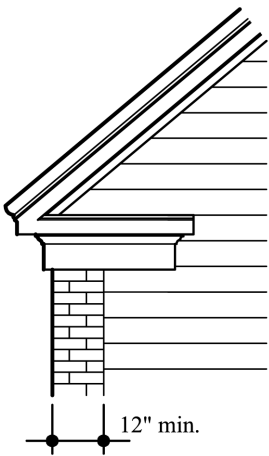

Figure 12a
- » Masonry shall return a minimum of 12" on non-frontage side elevations or at an inside corner of a protruding element on the main/entry facade. Masonry returns are encouraged, but not required on rear elevations. See Figure 12a.